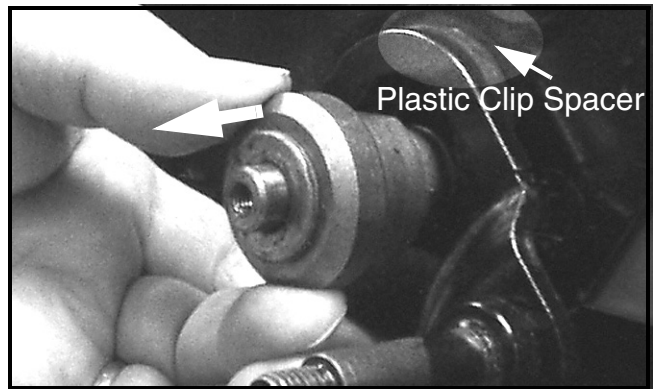

FIGURE 5
14. Slide the transmission support bearing off of the transmission's output shaft and remove the plastic spacer clip. See Figure 5.